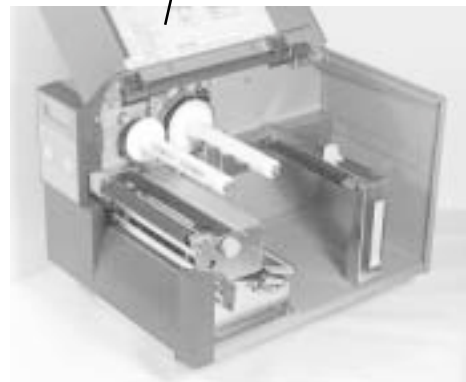

Fig. 6-49
2.	Remove (3) screws holding the left side cover to the printer. Raise the access door and loosen the (2) screws on the inside top of the printer. Lift off the left side cover to expose the main PCB. Refer to Section 4-2.
3.	Remove the ribbon and label stock if installed. Fig. 6-49